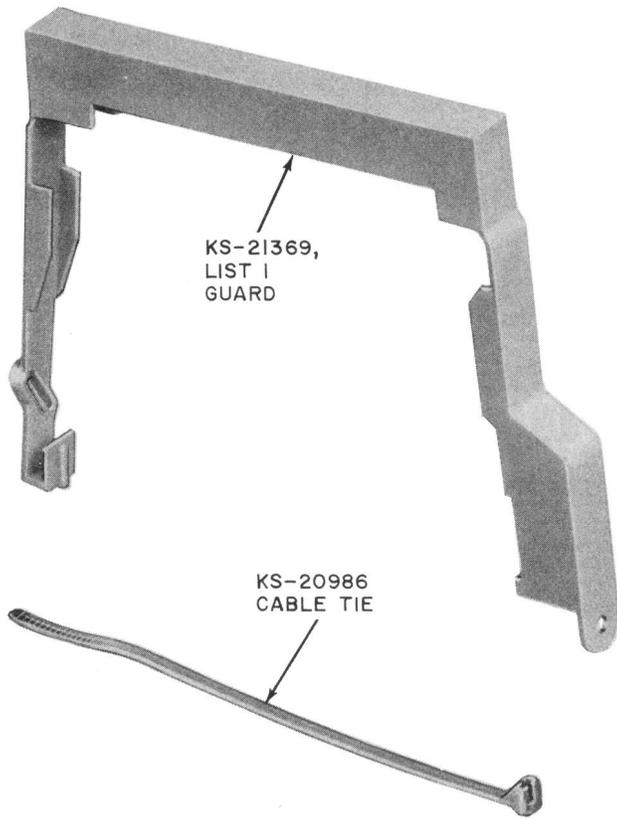

Fig. 10—KS-21369, L1 Guard and KS-20986 Cable Tie
5.01 The KS-21369, L1 guard (Fig. 10) is a red, flame retardant plastic wrap-around guard designed to insulate, protect, and designate special service protection (SSP) and special safeguarding measures (SSM) circuit pairs on the 300-type connectors. The KS-21369, L1 guard is used when **SSP** is required; when **SSM** is required, a KS-20986 cable tie is used to secure the guard to